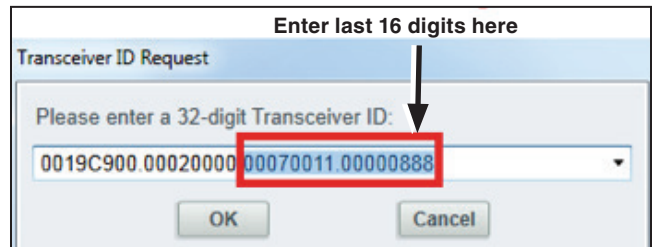

Figure 11. Enter last 16 digits into the Transceiver ID Request dialog box.
- (b) Next, a Transceiver ID Request dialog box will open. Enter the transceiver ID of the TripSaver II recloser being connected to, and click on the **OK** button to connect. The first 16 digits of the ID are pre-typed, so only the last 16 digits must be typed in. See Figure 11.